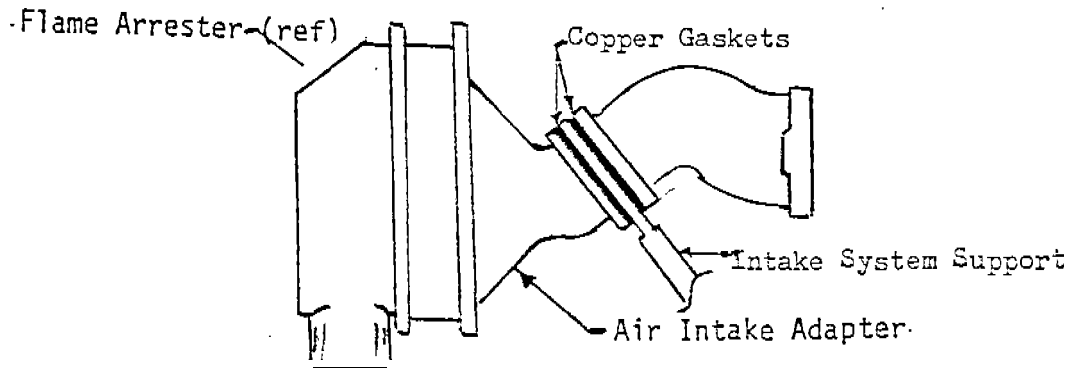

Figure 2. Gaskets between Air Intake Adapter, Intake System Support and Intake Manifold.
- (WEEKLY) 4. () The copper gasket is installed between the Air Intake Adapter and the Intake System Support and another copper gasket between the Intake System Support and the Intake Manifold as shown in Figure 2.
The copper gaskets described in item 4 and illustrated in Figure 2 are in place and the bolts securing them to the Air Intake Adapter, the Intake System Support and the Intake manifold respectively are in place and are tight.